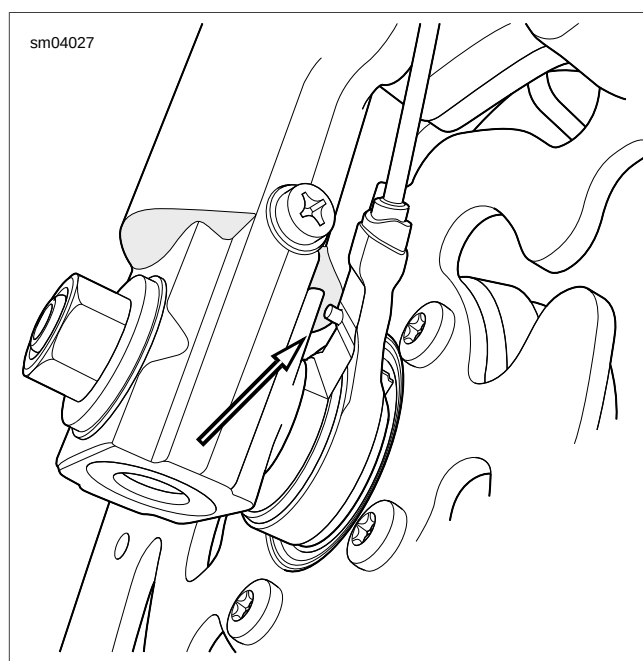

Figure 2-7. Front Wheel Speed Sensor Index Pin (ABS Equipped)
- See Figure 2-7. If ABS equipped, rotate front wheel speed sensor counterclockwise until index pin makes contact with shoulder on left fork slider.